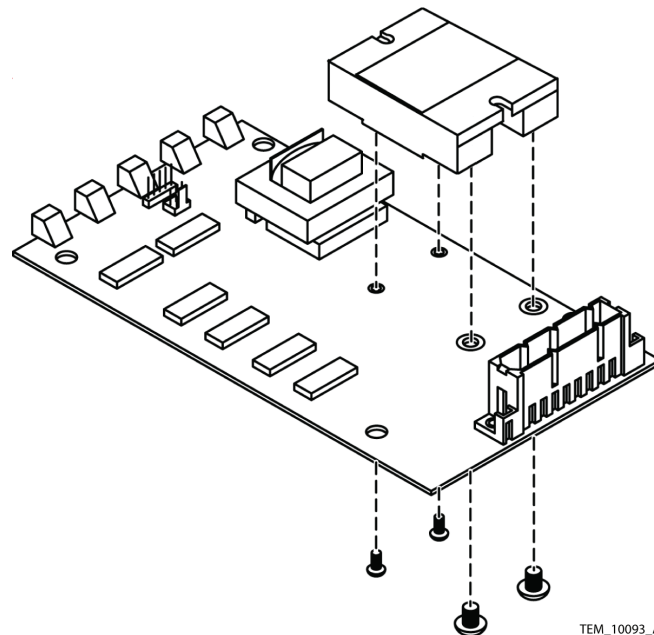

Figure 36. Control PCB Relay Assembly Removal
8. Remove the solid state relay from the Control PCB. See Figure 36.
9. Install the solid state relay onto the replacement Control PCB. Tighten the smaller screws to 7 to 10 in/lbs (18 to 25 cm/kg). Tighten the larger screws to 17 to 20 in/lbs (43 to 51 cm/kg). See Figure 36.